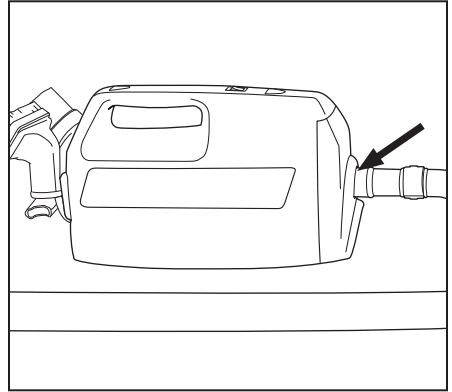

Fig. 3
- Attach the vacuum hose to the suction intake port (Fig. 3).
- Attach the vacuum hose to the suction intake port and twist to lock into place (Pg. 7, Fig. 3).